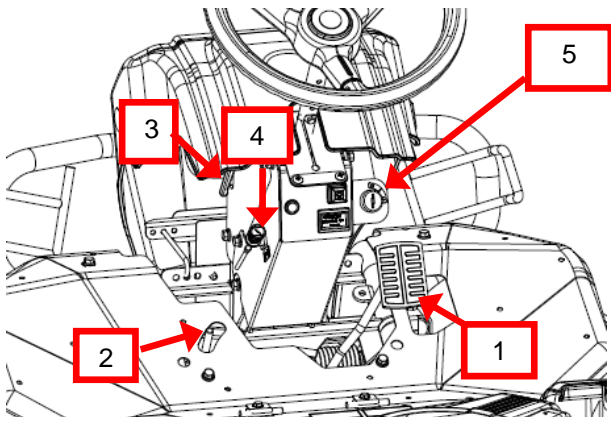

Figure 6a (model RM882 & RM952)
The brake pedal is used in case of emergency or when the parking brake is locked (1, Fig 6a & 6b). When brake pedal is pressed, travel speed lever is automatically moved to neutral position « N ». To lock parking brake, press the brake pedal (1, Fig 6a & 6b), then turn the locking lever (2) to the right. Press again and release the pedal to unlock the parking brake.
When the handle angle lever (3, Fig 6a & 6b) is loose, handle angle can move freely. p , securely tighten the tilt lever until it is fixed.
Pull the choke lever (4, Fig 6a & 6b) to start cold engine, and release it gradually when engine become hot.
The Ignition key(5, Fig 6a & 6b) is used to start and stop the engine.